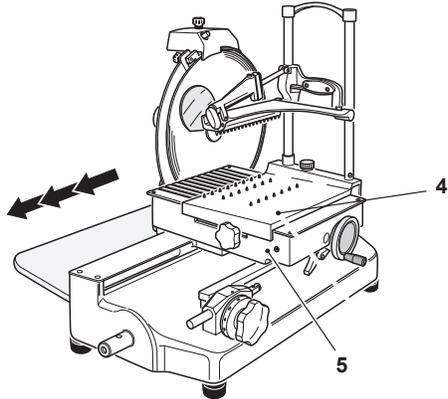

Figure 9-1
1. Move the carriage (5) as near to the operator as possible (Figure 9-1).